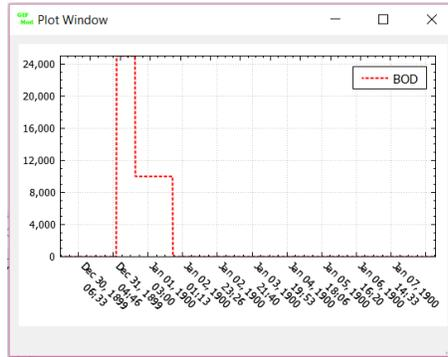

Figure 5.4: BOD concentration variation in the inflow
- Choose the file that was created as the value for the **Inflow time-series** property of the pond block. To visualize the BOD concentration in the inflow, right click on the file name that was selected and then click on *BOD*. The graph that will appear look like figure 5.4.